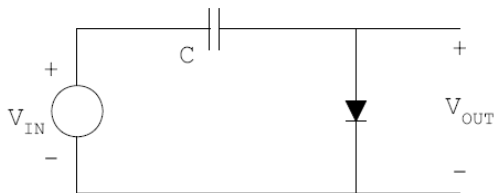

Fig. 3
**4** Connect a  $10 \text{ K}\Omega$  resistor in parallel with the diode in Fig. 3, and measure the DC shift of  $V_{\text{OUT}}$  by reading the mean value at the oscilloscope. Repeat with a  $1 \text{ K}\Omega$  resistor. Explain the effect of the load resistor on the DC shift.